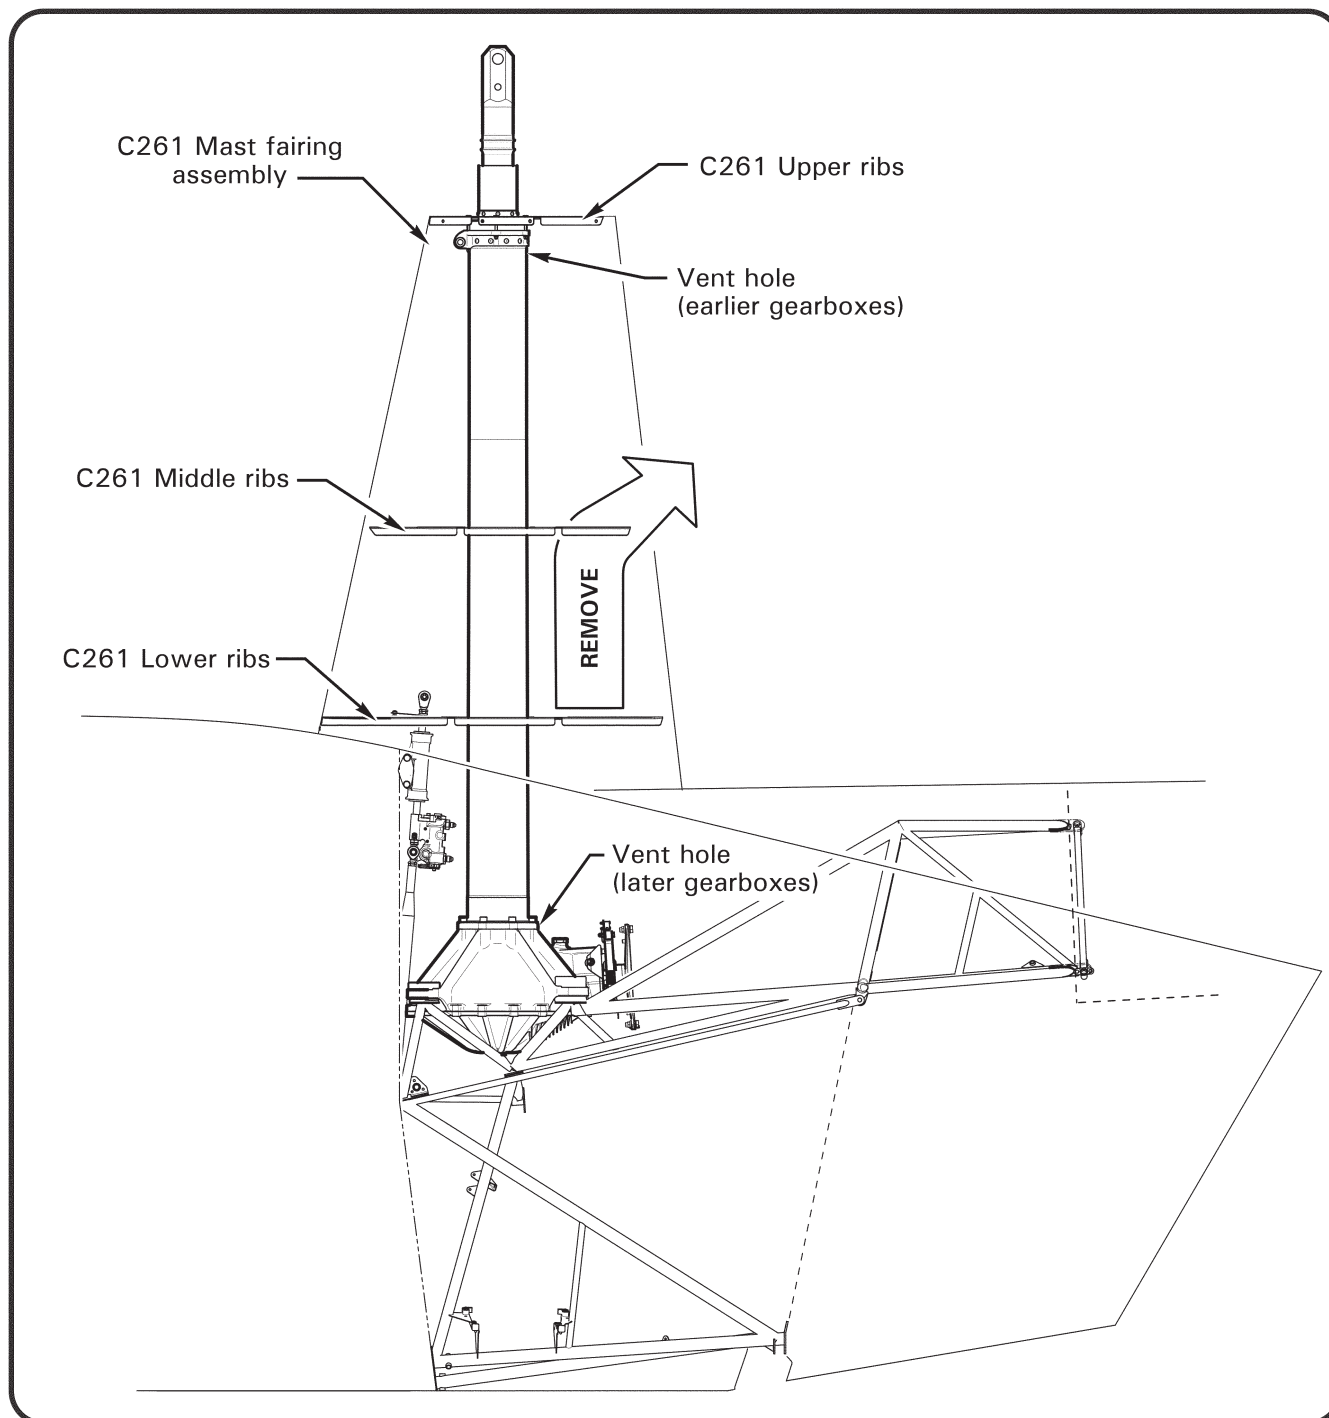

FIGURE 7-2 MAIN ROTOR GEARBOX REMOVAL
16. Remove (4) A650-4 fittings securing gearbox to upper frame. Carefully lift gearbox up and aft to clear forward hydraulic servos (and clutch forward yoke, if installed) and remove from helicopter (ref Figure 7-2).